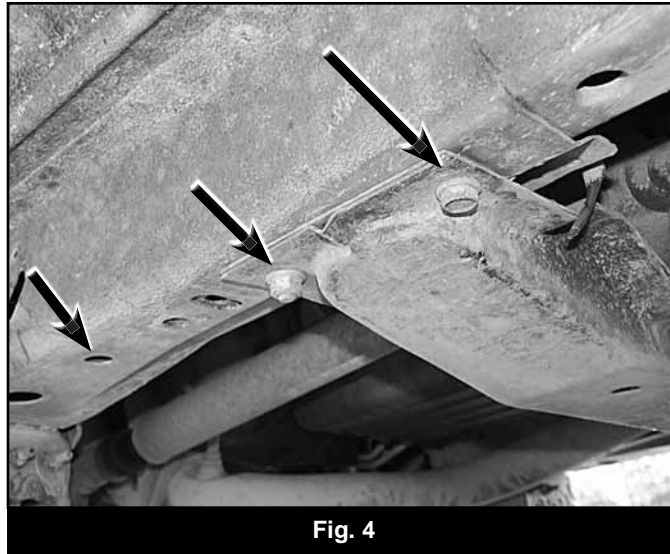

Fig. 4
11. Remove the nuts/bolts retaining the crossmember to the frame and remove the crossmember from the vehicle (Fig 4).
12. Some models may use a combination of threaded studs/nuts and bolts to fasten the OE crossmember (Fig 4). If this is the case, the threaded studs must be removed. The studs can be removed by either clamping vise grips on it, using the double nut method or tack welding a nut to the stud and using a wrench to remove it.
13. Locate the third threaded hole in the uni-body rails just ahead of the two that were used to mount the OE crossmember (Fig 4). Ensure that the threads are clean of dirt and rust (10mm-1.5). These holes will be used to mount the new crossmember in conjunction with the original two holes (per side).